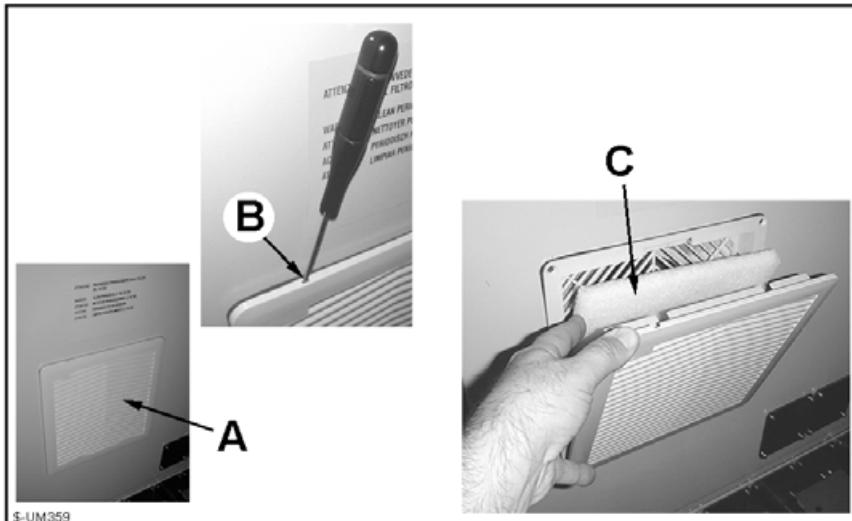

Fig. 5.6a
- Remove the cover A (fig. 5.6a) levering with a screwdriver in the fissure B